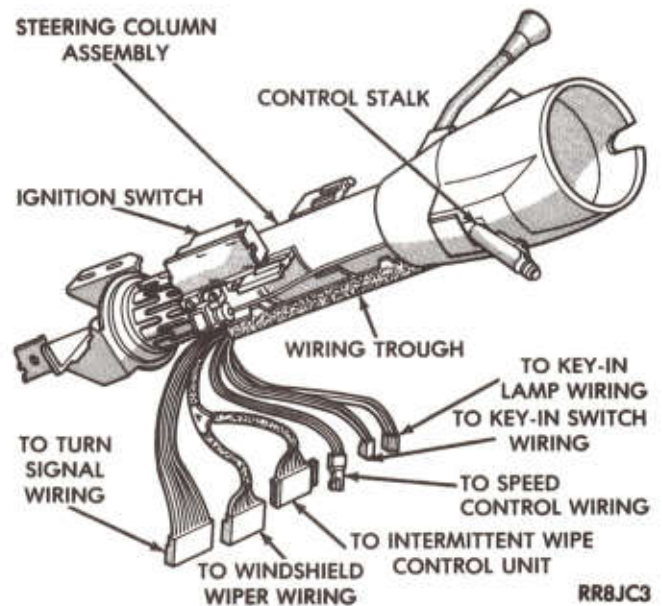

Fig. 1—Steering Column Connectors
- (1) Disconnect negative battery cable.
- (2) Remove lower steering column cover.
- (3) Remove wiring trough after unsnapping four plastic retaining clips (Fig. 1).